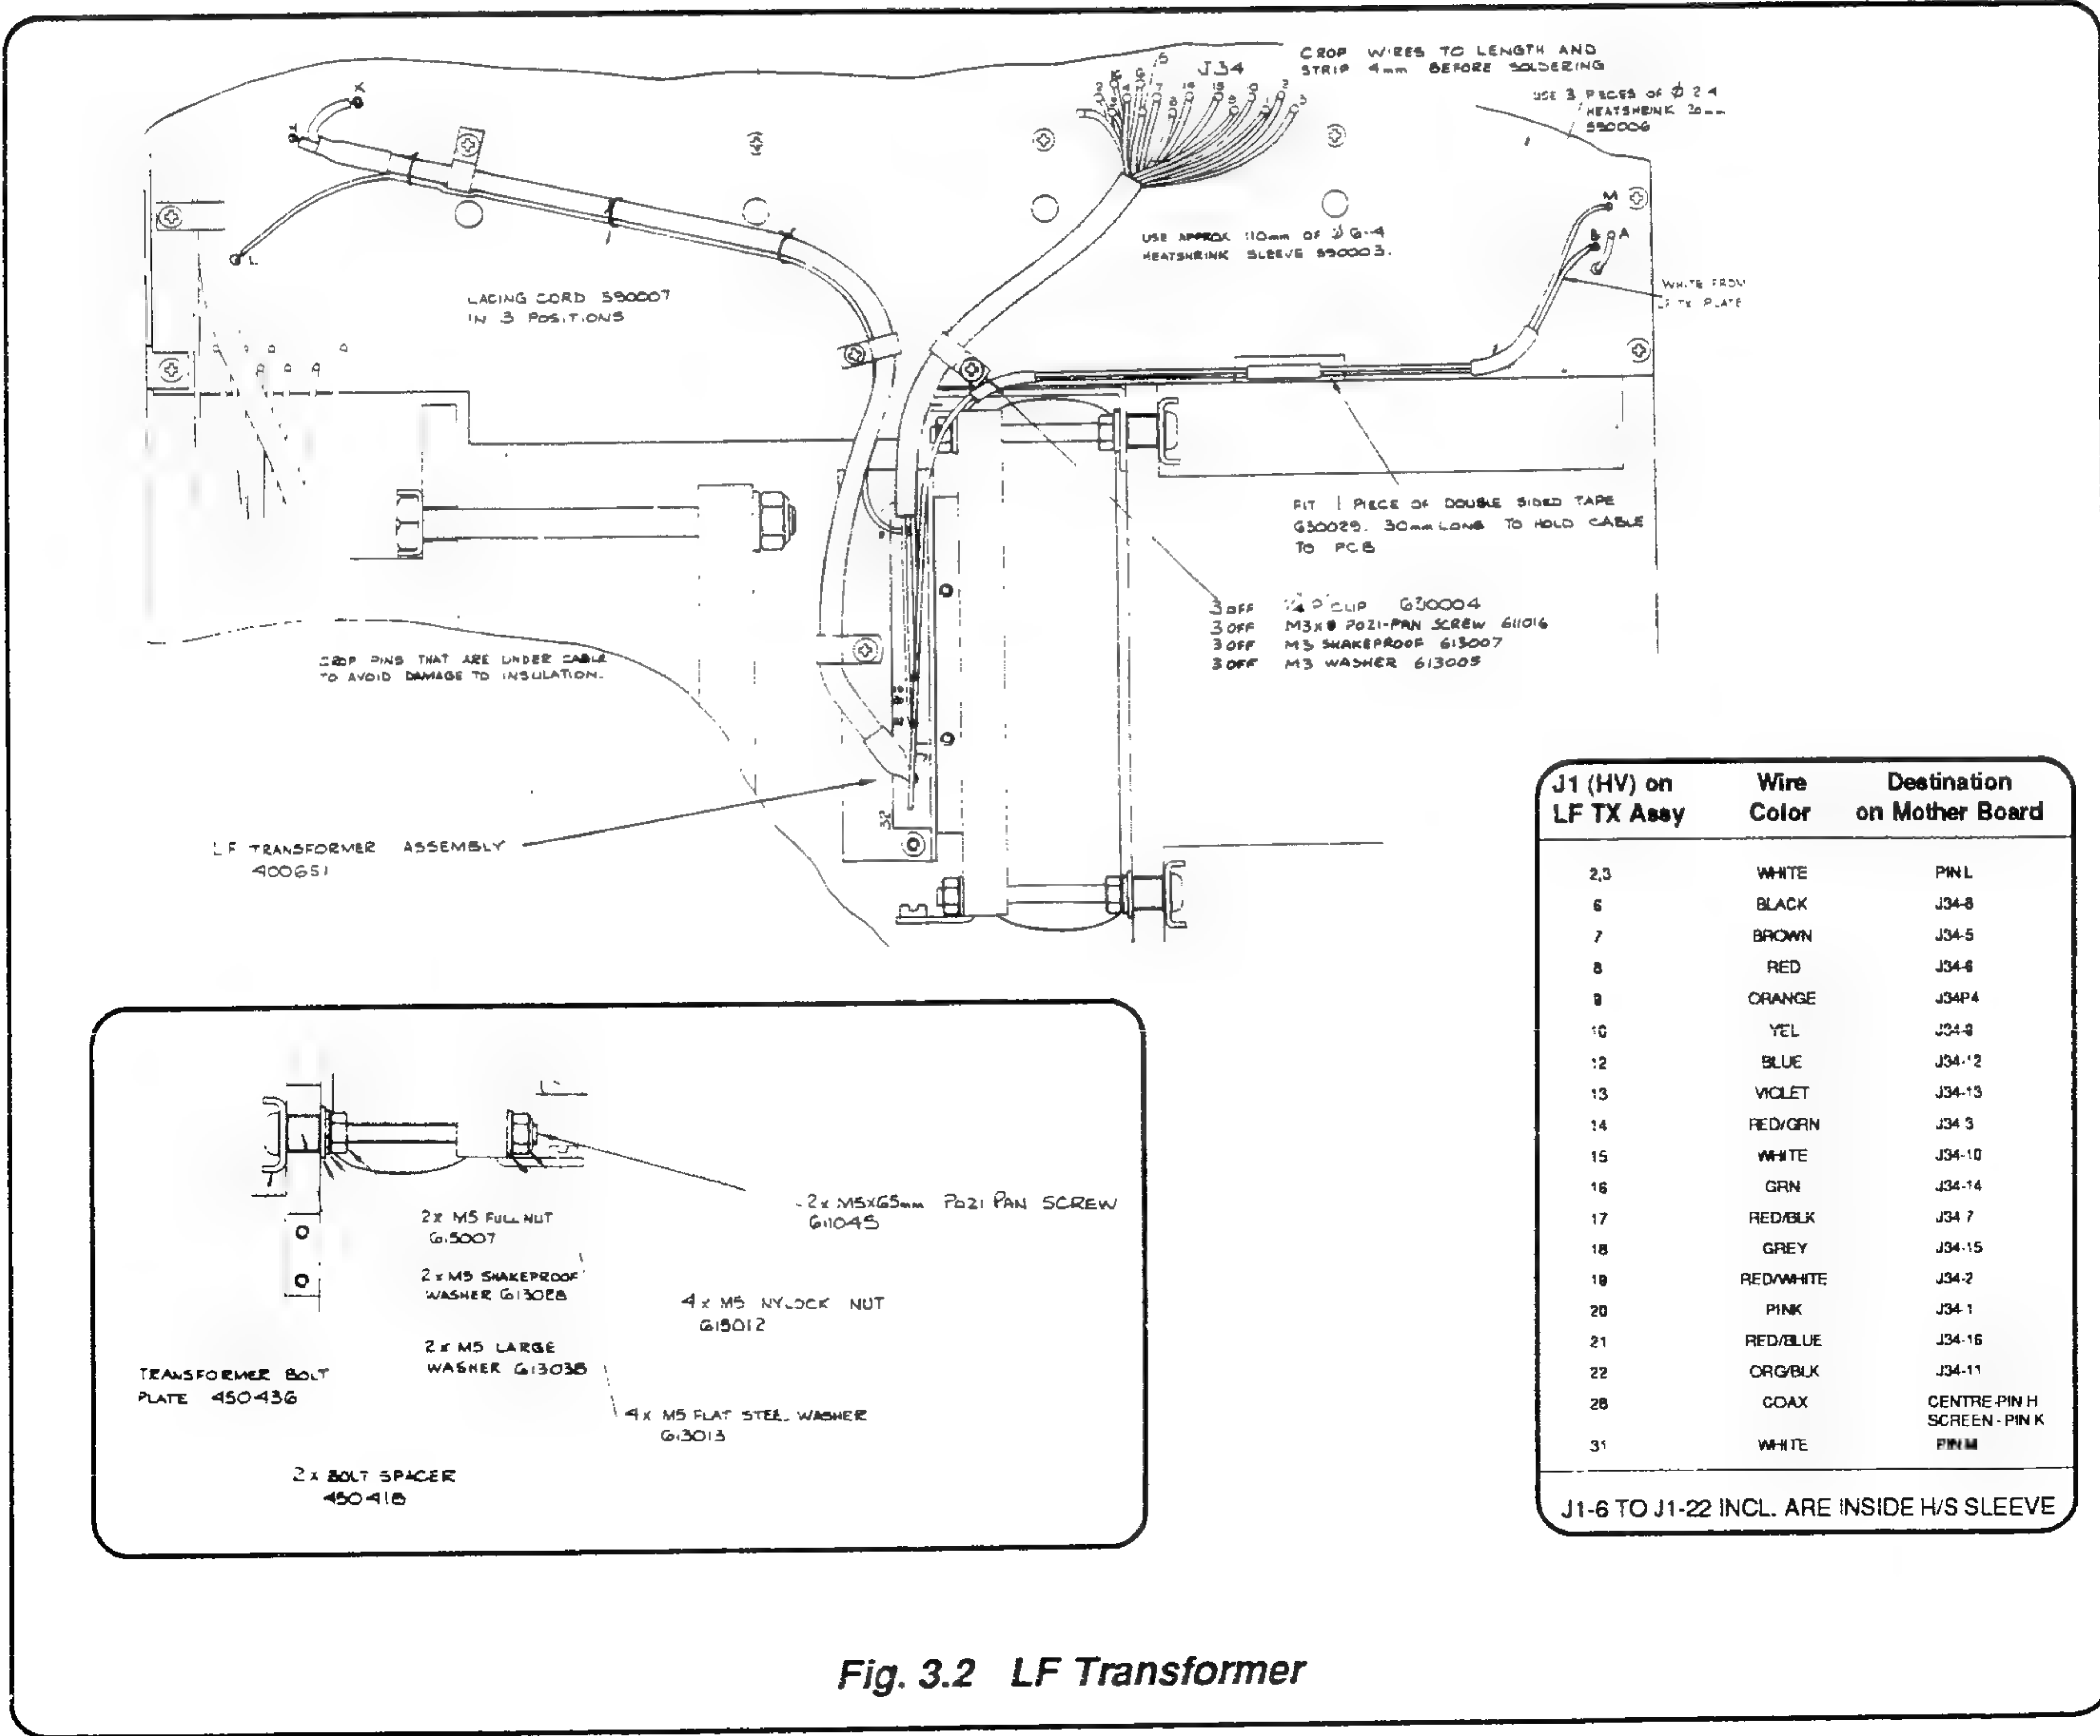

Fig. 3.2 LF Transformer
- a. Disconnect connector J4 from the Power Amplifier and J3 from the High Voltage Assembly (see Fig. 3.2).
Reverse the removal procedure, referring to Fig. 3.2 and Page 11.15-2 Detail 1 to 4.